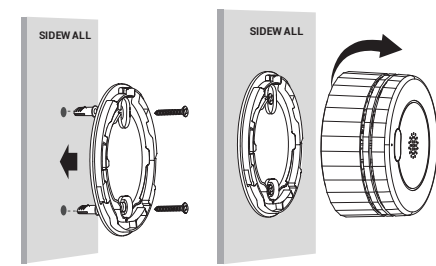

Figure 4
- 3.Drill the holes at the marks with a 3/16" (5 mm) drill bit. Insert the anchor plugs and screw the mounting bracket to the ceiling or wall using the screws provided.(See Figure 4)